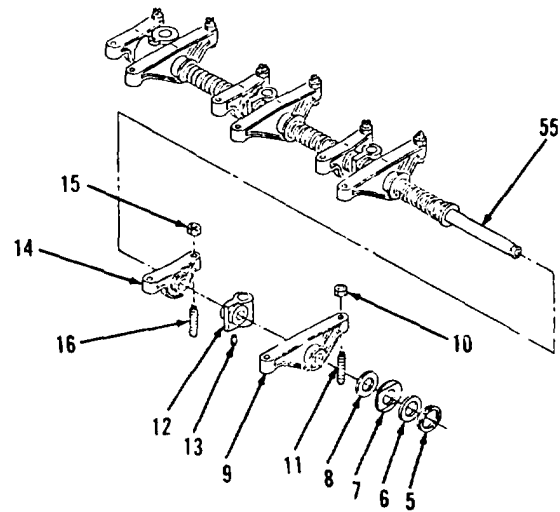
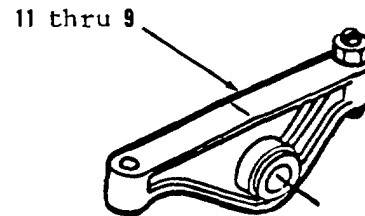

Figure 3-48.
Figure 3-49.
26. Install screw (16) and lock nut (15) in arm (14, Figure 3-48). Loosely tighten lock nut (15).
27. Install arm (14) on shaft (55).
28. Install dowel (13) in bracket (12). Dowel (13) must extend 0.23 inch out of bracket (12).
29. Install bracket (12) on shaft (55).
30. Install screw (11) and lock nut (10) in arm (9). Loosely tighten lock nut (10).
31. Install items 11 thru 9 as an assembly (Figure 3-49).
32. Install washer (8), spring (7), washer (6) and ring (5) on shaft (55, Figure 3-48).